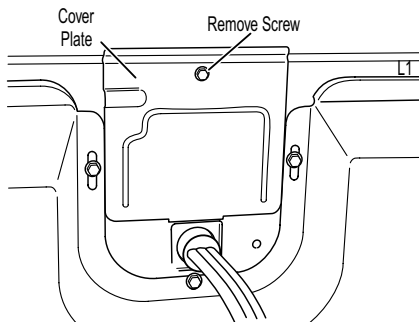

Figure 3. Remove the cover plate.
2. Remove the cover plate from the back of the dryer. See Figure 3.